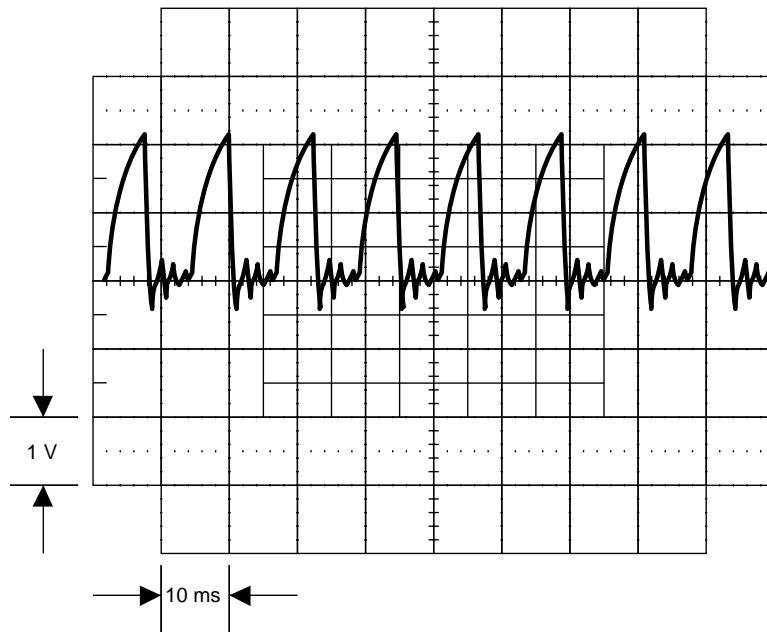

Figure 5-2. Waveform at TP1
3. Check the 8 MHz reference. Set the 5700A to 1V at 1.2 MHz operate. Connect an oscilloscope to TP1 and verify it displays a 8 MHz signal similar to that shown in Figure 5-2. If a failure is detected, first verify that control line WB ON/OFF* is a